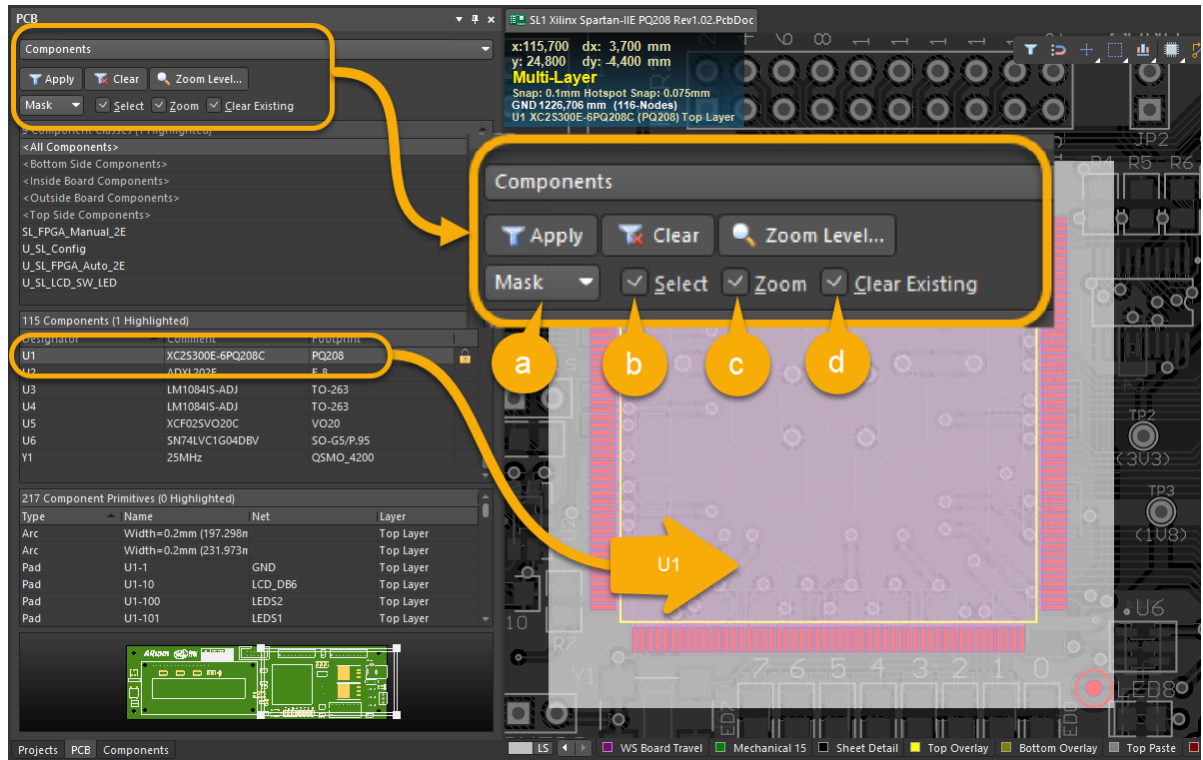

Figure 5. Filter Options for PCB Panel
12. Set the Filter Options as shown in Figure 5.